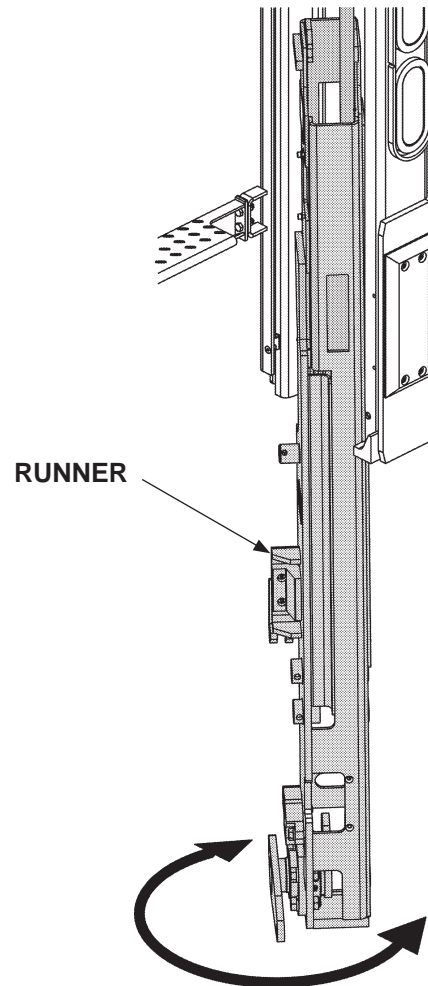

FIG. 35-1
24. Stand the runner and cylinder upright. Twist and walk runner into column (**FIG. 35-1**).